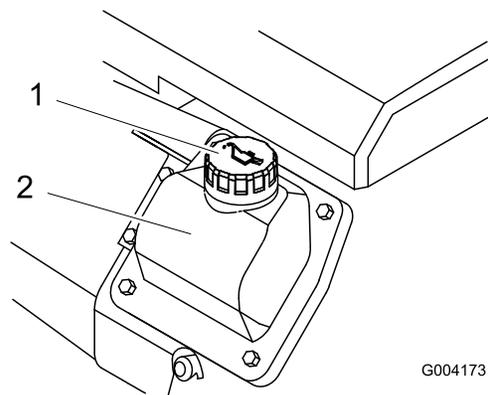

Figure 11
8. If the oil level is low, clean around the oil filler cap and remove the cap (Figure 11).